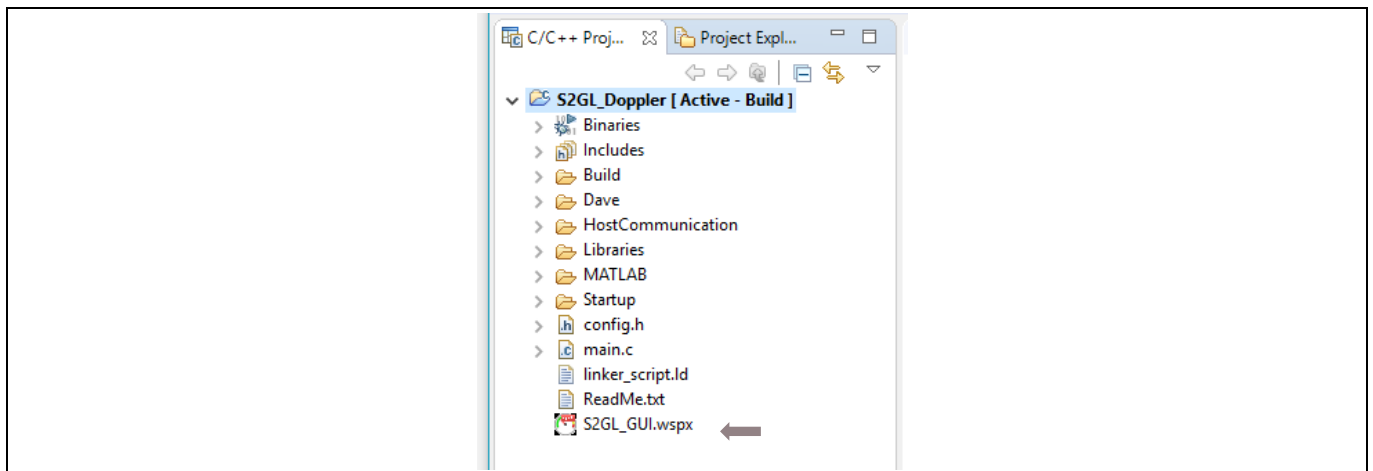

Figure 21 Open Sense2GoL GUI
- **S2GL_GUI.wspcx** can be opened in Windows Explorer, or in S2GL_Doppler DAVE™ project explorer, as shown in Figure 21.